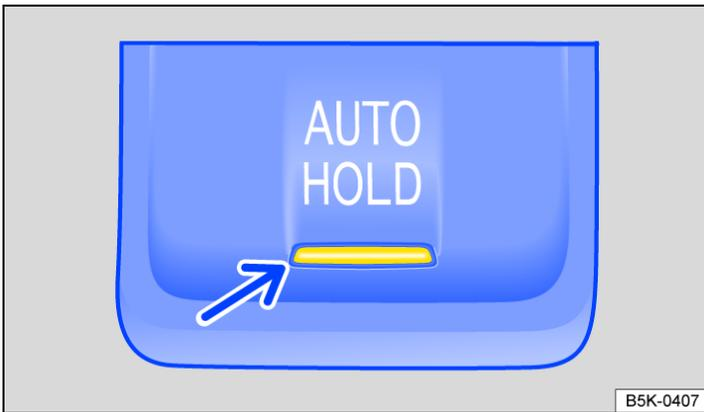

Fig. 1 In the centre console: button for the Auto Hold function.
- Press the **AUTO HOLD** button. The indicator lamp in the **AUTO HOLD** button → Fig. 1 lights up yellow. Auto Hold is ready for use, but the car is not necessarily stopped → ⚠.
- press the **AUTO HOLD** button → ⚠. The indicator lamp in the **AUTO HOLD** button → Fig. 1 goes out.